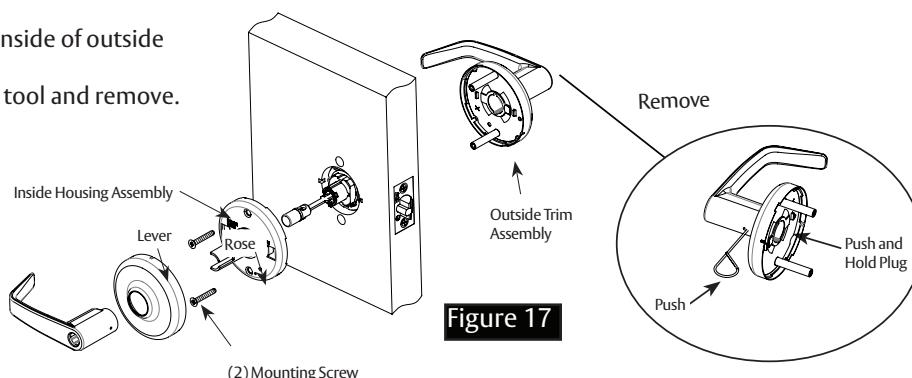

Figure 17
3. Remove (2) mounting screws and inside housing assembly.
5. Push and hold plug back (located inside of outside trim assembly). See Figure 17.